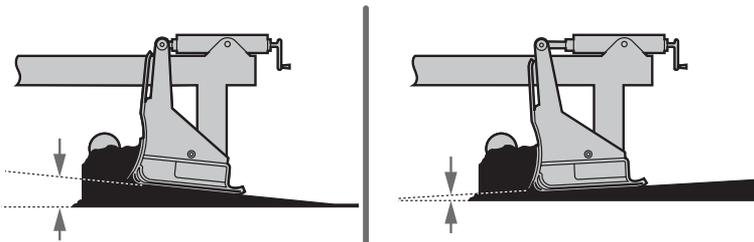

Figure 2-3. Screed Determines Mat Thickness
- If the screed angle of attack is increased the screed rises, increasing the mat thickness (Figure 2-3).
- If the angle of attack is decreased, the screed will settle, providing a thinner mat surface (Figure 2-3).